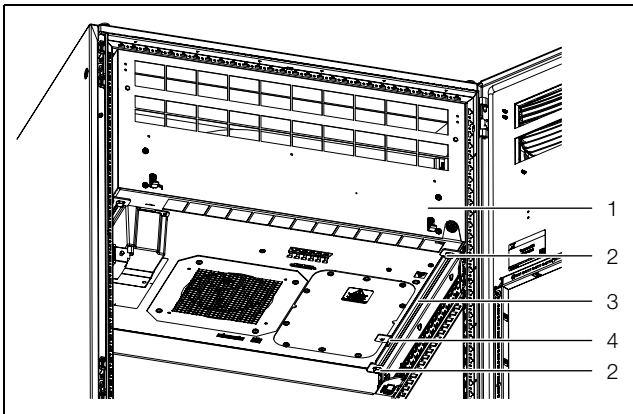

Fig. 27: Cooling unit fastening
- Loosen each of the two fastening screws on the left and right (fig. 27, item 2) used to secure the cooling unit onto the support rails.